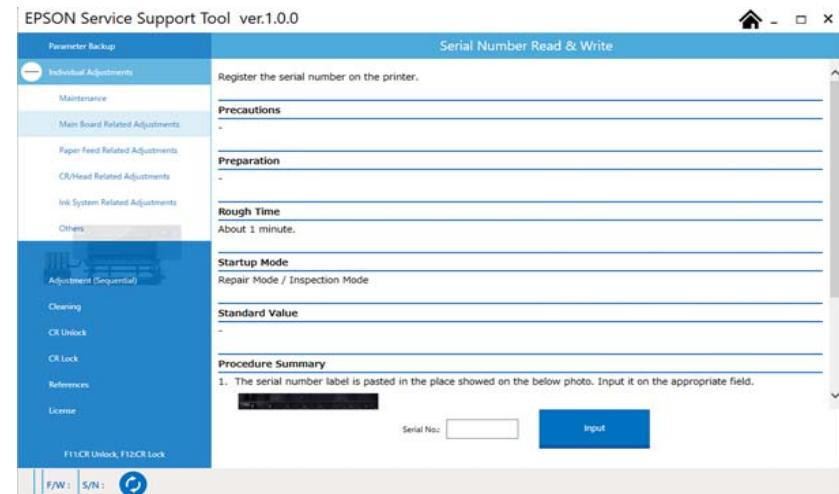

Figure 4-77.
- Refer to Figure 4-77 and enter the serial number printed on the label affixed to the printer.